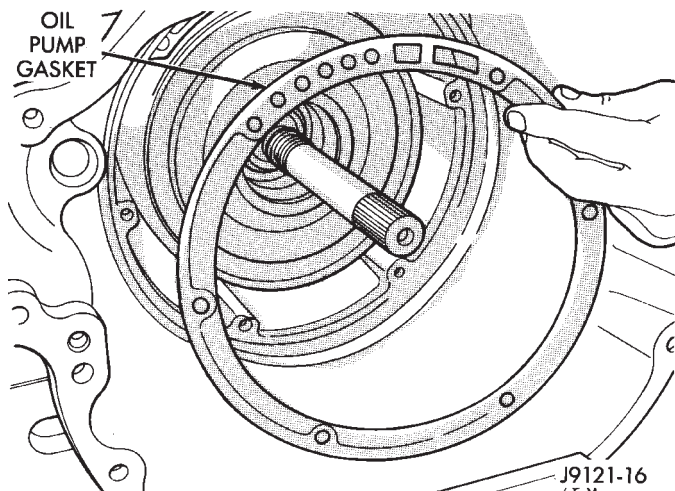

Fig. 105 Oil Pump Gasket
(15) Remove oil pump gasket (Fig. 105). Note gasket position in case for assembly reference.